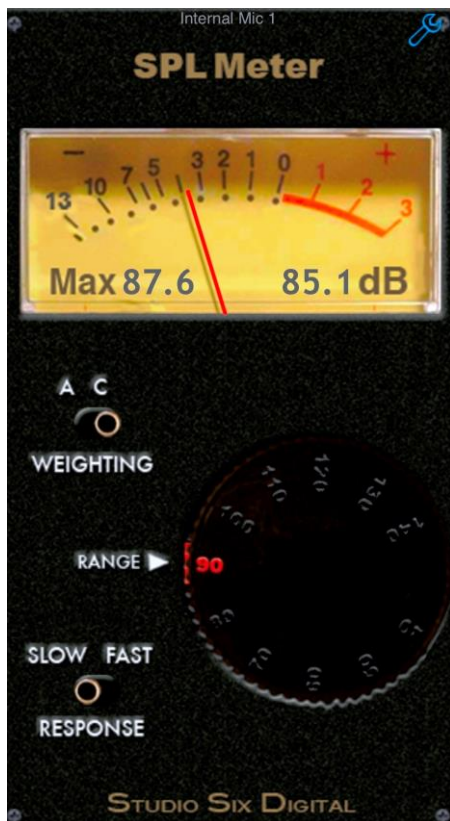
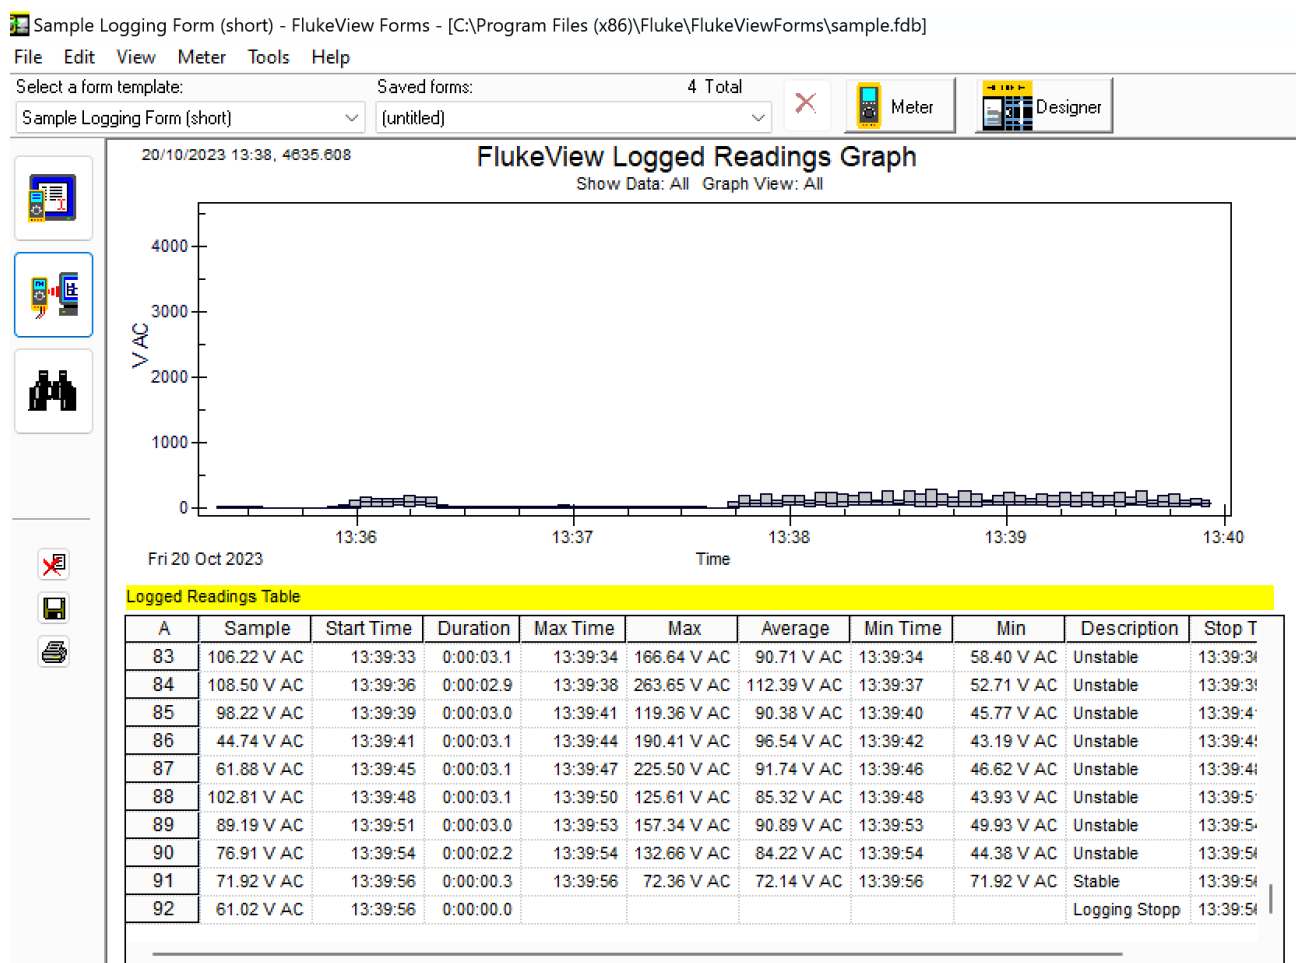

Figure 29. Measurement of sound pressure level during loud music volumes, one channel feeding single speaker.
Figure 30. Logging of AC RMS voltages measured across a 0.01 uF capacitor configuration.
- Playing loud music through one channel into a single speaker produced sound pressure levels ~85 dB C-weighted as measured on my mobile phone app (Fig. 29), while the maximum True RMS voltage measurements peaked between 250 and 300 VAC (Fig. 30). Depending on your model and version of Acoustat your results could be different from mine.